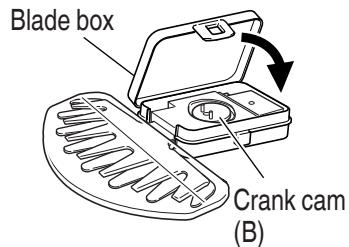

Fig. 8
5. Blade box (**Fig. 8**) (Standard accessory with CH10DL (CG))